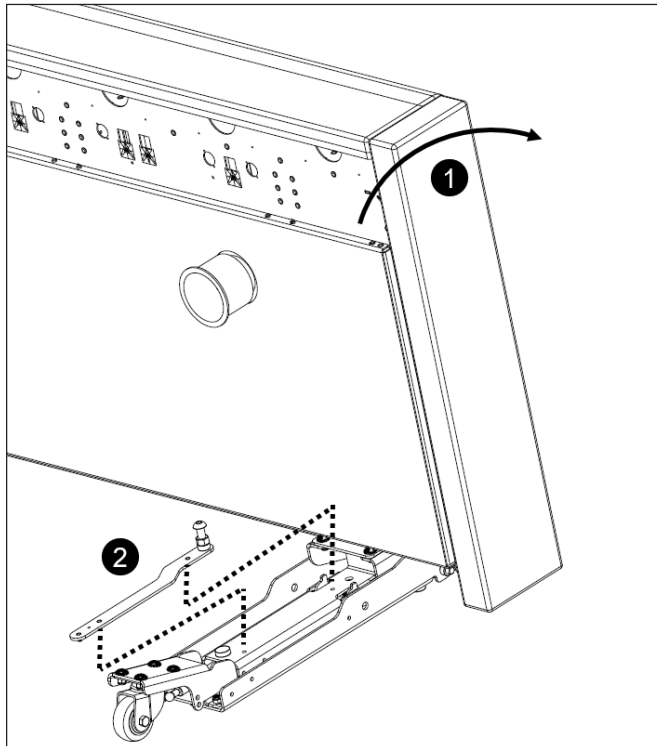

Figure 23: Caster Base Tool Location for Setting Face Angle
6. Carefully tilt the display face forward enough to insert the studs of the Caster Base Tool with the mating holes on the top of each caster base pivot arm. Refer to **Figure 23**.